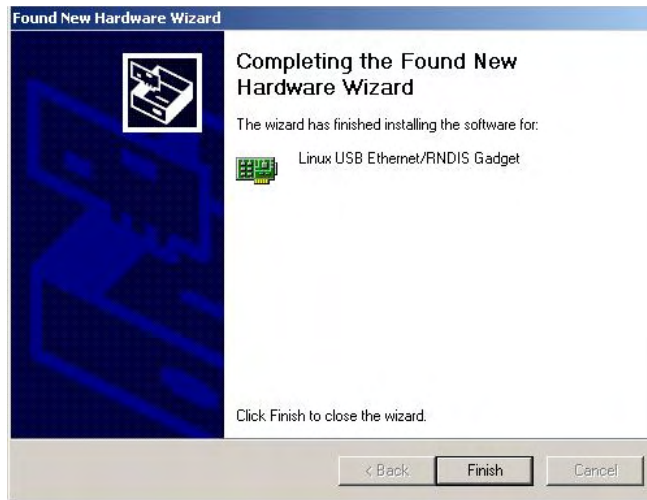

FIG. 35 Completing the Found New Hardware Wizard
- Once the system finds the driver, it displays its choice (FIG. 35). Click **Finish** to complete the driver installation.